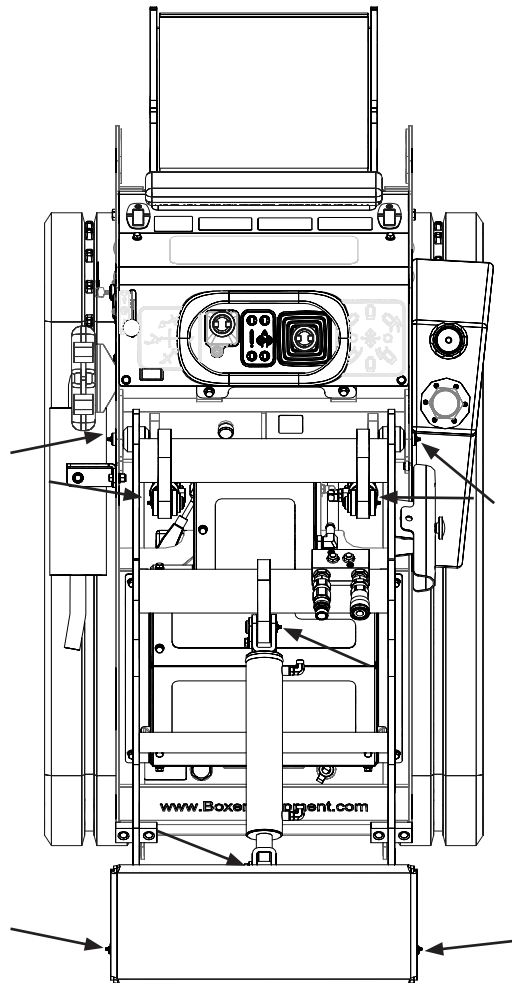

Figure 3-9 Lubrication Points
12. Grease pivot shafts with proper type of grease. There are 13 grease points on this machine, see Figure 3-9.